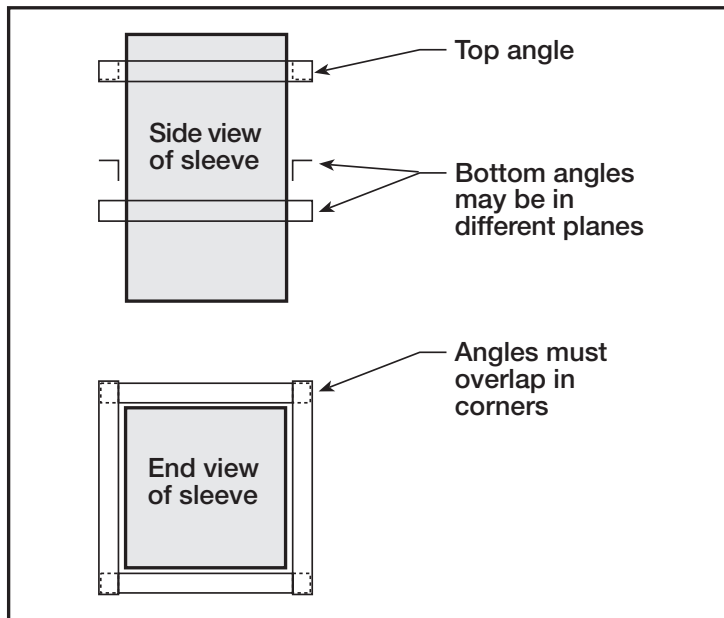

Figure 2: Retaining angle installation
3. When viewed from the end of the sleeve, the angles must overlap each other in the corners such that no sight through is possible (see Figure 2).